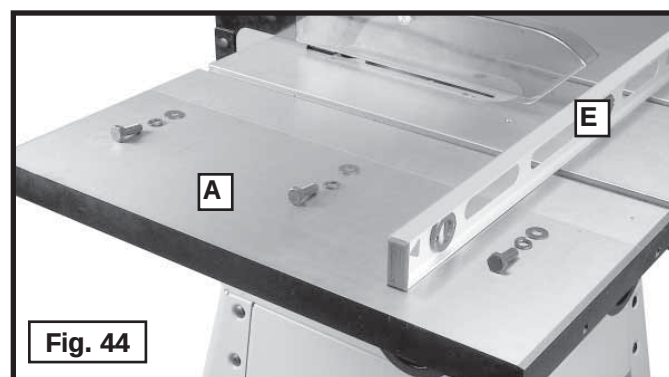

Fig. 44
1. Attach the extension wing (A) Fig. 44 to the saw table. Align the three holes in the extension wing with the three holes in the side of the saw table. Place a 7/16" Lockwasher and a 7/16" flat washer on a 7/16-20 x 1-1/4" hex head bolt (hardware assemblies shown on wing (A), Fig. 44.)
3. Use a straight edge (E) Fig. 44 as a guide to level the extension wing (A) with the saw table. Once level, tighten the bolt on one side. Check the level again. Tighten the bolt in the middle, then tighten the bolt on the other side.